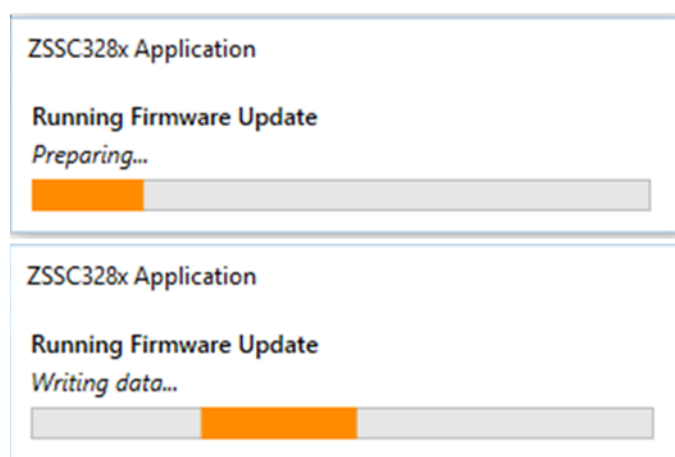

Figure 188. FW Update Operation
2. Click the “Start Firmware Update” button. The ‘ZSSC328x Application’ window pops-up (see Figure 188). The button is enabled if all criteria to perform a FW update is met. During the update, no other action can be performed in the GUI.